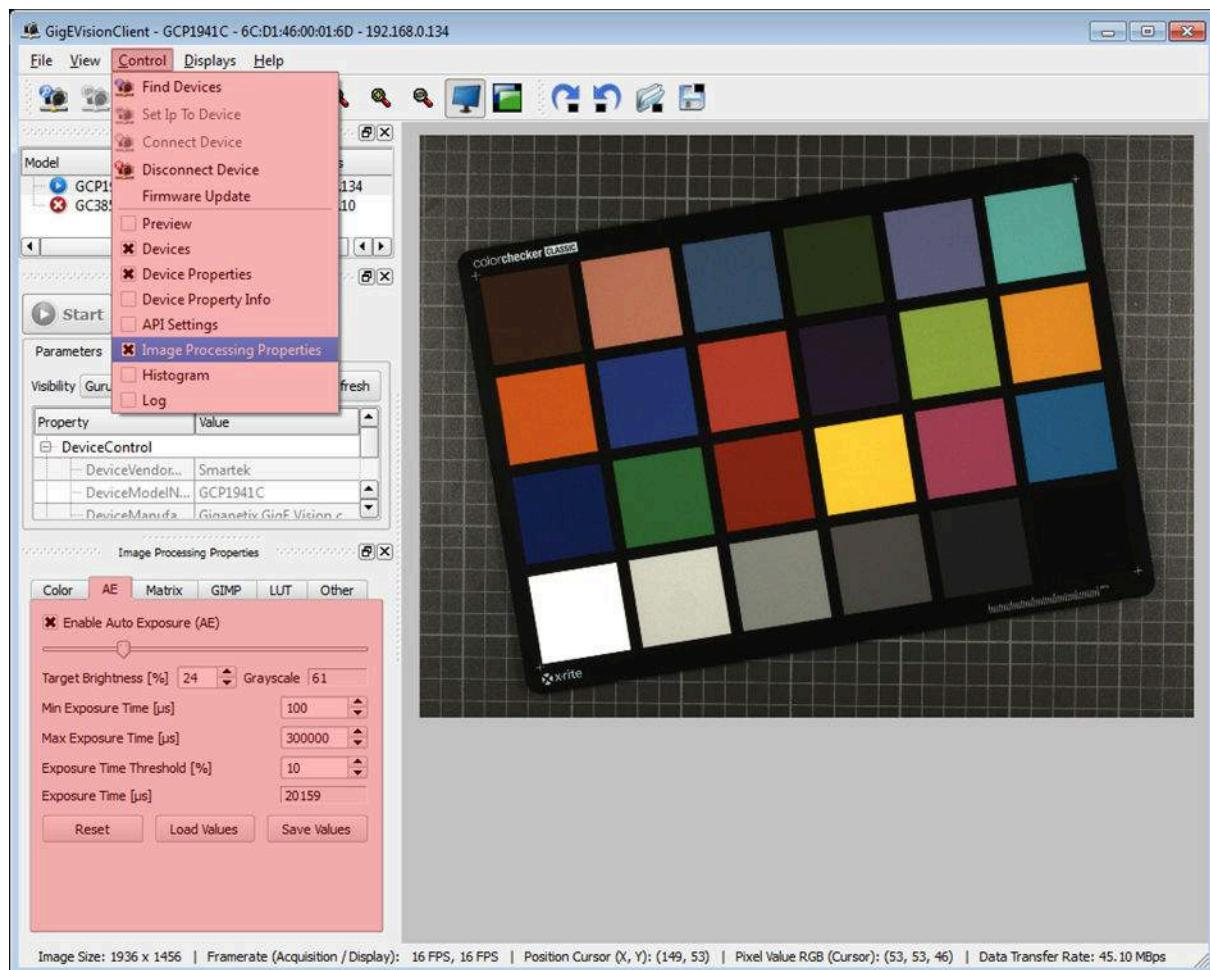

Figure 99: Auto Exposure in CameraSuiteClient.
In the *CameraSuiteClient* the *Auto Exposure* (AE) can be enabled / disabled in the *Image Processing Properties* panel under *AE* (see Figure 99). If not visible, the panel can be enabled by the menu bar entry *Control* ⇒ *Image Processing Properties*.